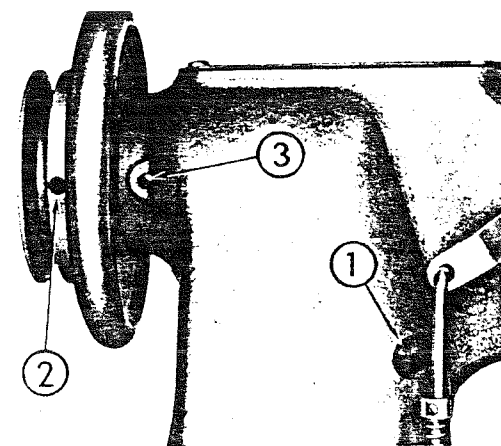

Fig. 26
Remove the face plate and the needle bar frame, insert a screw driver into the hole (Fig. 26 ①), loosen the screw of the needle bar frame rock shaft crank and take out the needle bar frame rock shaft.
First, loosen the set screws placed in the belt groove of the hand wheel (Fig. 26 ②) and take out the hand wheel. Next, loosen the main shaft rear bushing set screws (Fig. 26 ③), then remove the thread take-up, loosen the 2 screws of the upper main shaft rear bushings at right side of the upper sprocket and remove the main shaft rear bush from the frame.